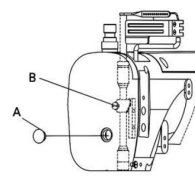

图14 (Fig.14)
- 2.打开上方侧盖橡胶塞(A),并松开螺钉(B)，上下调整机针高度后在固定螺钉。(图 14)
机针高度调整后，必须确定每一根针是通过针板孔中央.(图 14)。
- 2.The position of needle bar can be adjusted by [1] removing rubber cap (A) and loosening nut (B) ,[2] moving needle bar up and down ,to proper position and [3] tightening screw (B) ,and insert in cap (A). (Fig.14)